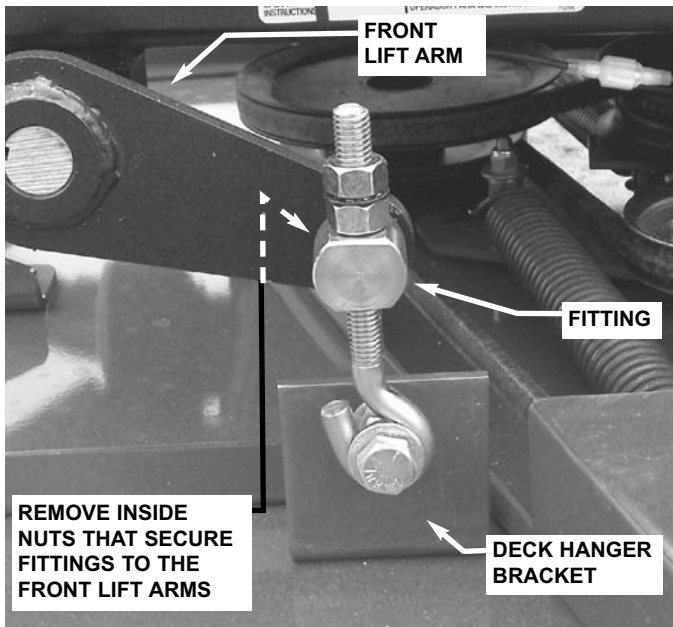

FIGURE 4.10
6. Remove inside nuts that secure fittings to front lift arms. See Figure 4.10.